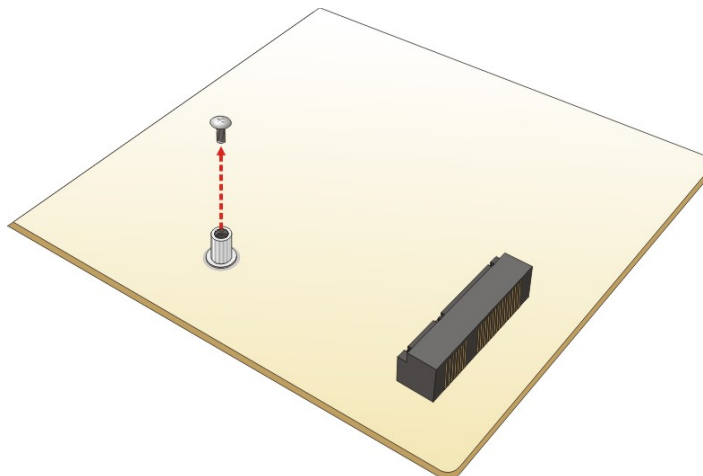

Figure 3-4: Removing the PCIe Mini Card Retention Screw
Step 3: Remove the retention screw as shown in **Figure 3-4**.